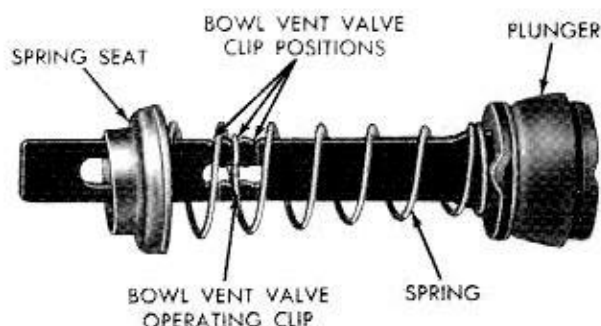

Fig. 13—Accelerator Pump Assembly
(1) Assemble pump plunger, spring and spring seat, (Fig. 13). Slide plunger shaft through opening in air horn. Install bowl vent valve over plunger shaft, then engage with pump rocker arm. (C.A.S. Carburetors.)